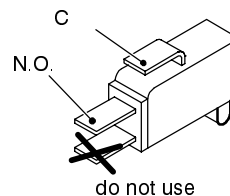

Fig. 51
- 2 Measure the electrical resistance between the tabs marked C. and N.O. (Fig. 51). The contact must be normally open.
- 4 Re-assemble the parts in reverse order of removal. Refer to Fig. 51 for the correct wiring connectors on the switch